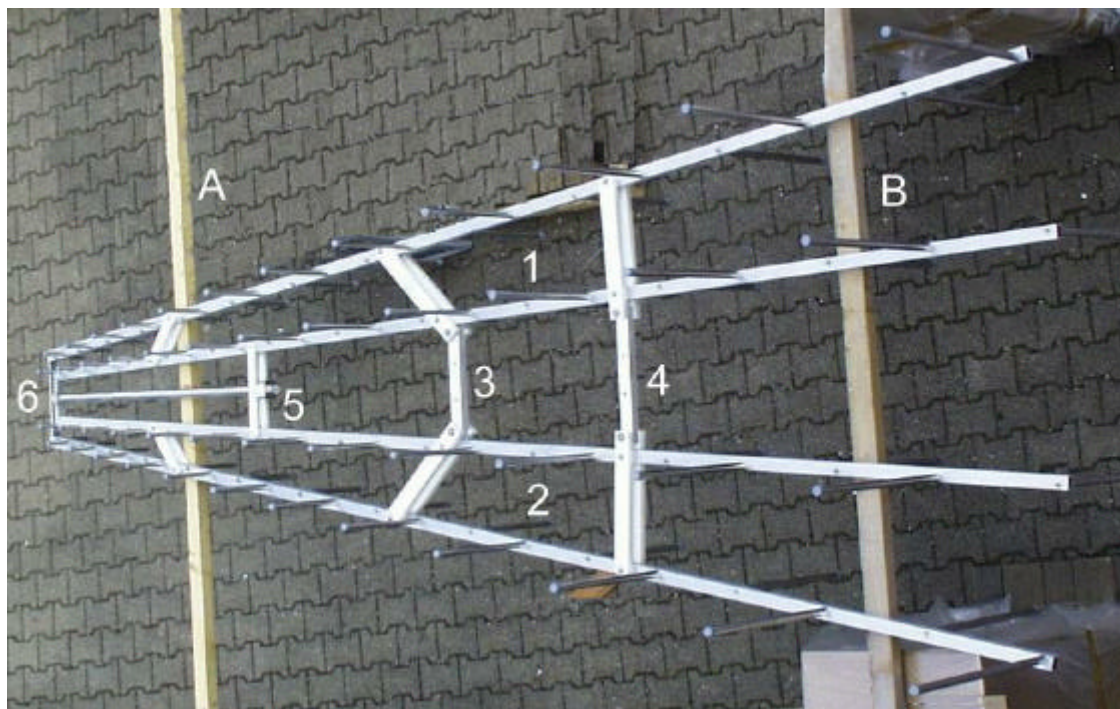

Figure 1: Top view on the LP-wings including the wooden support bars (part A and B) , the mounting bars (part 3 and 4) and the feed section (part 5 and 6)
**Step 1:** Both LP-wings are positioned onto the wooden support bars. The various drilled holes of the V-shaped LP-wings should face up or down. The feed section of one LP-wing should face towards the other LP-wings according to fig. 1. The mounting bars (part 3 and 4) are connected to the corresponding holes of the opposite part.